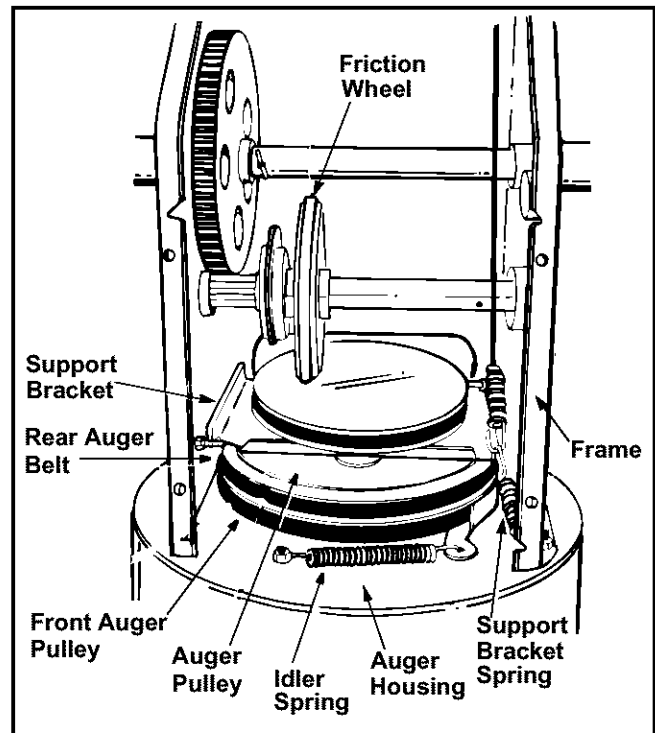

Figure 24
- Unhook the idler spring from the hex bolt on the auger housing. See Figure 24.
- Lift the rear auger belt from the auger pulley, and slip belt between the support bracket and the auger pulley. See Figure 24. Repeat this step for front auger belt (except models 600/610E).